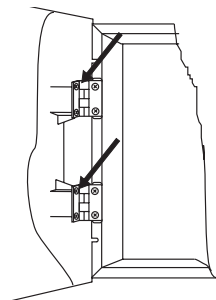

Figure 3.
- Remove the front panel by undoing the screws of the hinges - Figure 3. (**NB.** The screws at the metal bottom can also be undone. What is special here is that there are two plastic pads under the every hinge. These pads need to be placed back again under the hinges when mounting the front panel.)
- Perform an exposed or flush mounting - see items 3.1 and 3.2.